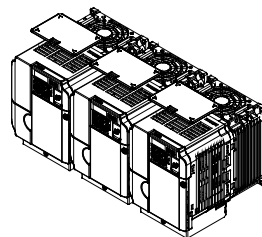

Figure 2.4 IP20/NEMA Type 1 Side-by-Side Mounting in Enclosure
**NOTICE:** When mounting IP20/NEMA Type 1 enclosure drives side by side, the top covers of all drives must be removed as shown in Figure 2.4.